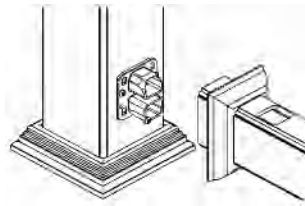

Figure 3. Installation of Bottom Bracket
4. Install Bottom Rail: Slide trim pieces onto the bottom rail facing the finished trim towards the center of the rail. Install the aluminum insert into the bottom cavity (if required) and insert the 2" x 3-1/2" brackets at both ends the bottom rail. Lower bottom rail (the rail with your drain holes) into position between posts. Make sure the holes for the pickets are facing up. Ensure the rail is level and the bracket is centered on the post. Pre-drill 3/32" holes into the post through the bracket holes and attach bracket to the post using screws provided (Figure 3.). Drive one of the screws provided through the top of the rail 3/8" of an inch from the post down into the bracket. This will provide the mechanical attachment of the rail to the bracket. Snap trim in place.